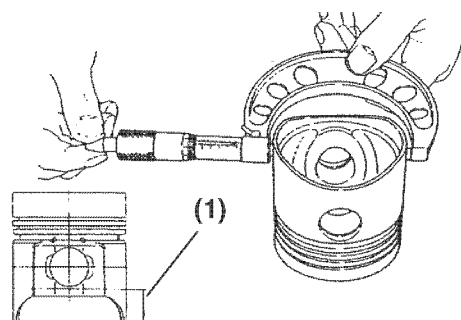

Figure 6-50
4. Measure the diameter of the piston skirt at 90° to the wrist pin bore as shown (**Figure 6-50**). Measurements must be taken at a specified distance (**Figure 6-50, (1)**) from the bottom of the piston, based on engine model. Record the measurements. See *Piston on page 6-10* for specifications.